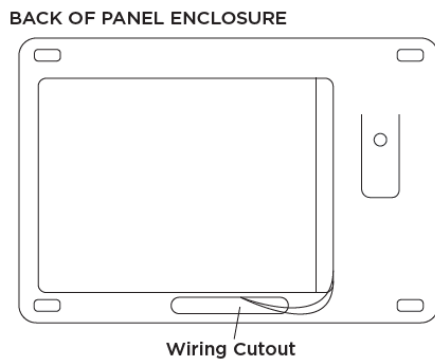

Figure 1: Backup Battery Placement on Panel Enclosure
1. Secure the battery to the backside of the panel enclosure with the provided double-sided tape. Do not cover the tamper location. Refer to Figure 1.